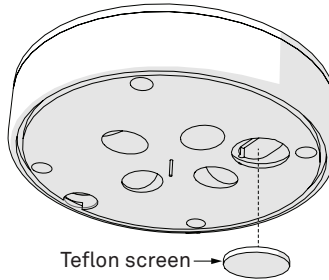

Figure 12 Teflon screen
5. Observe the Teflon screen (Figure 12) to see if it is dirty.